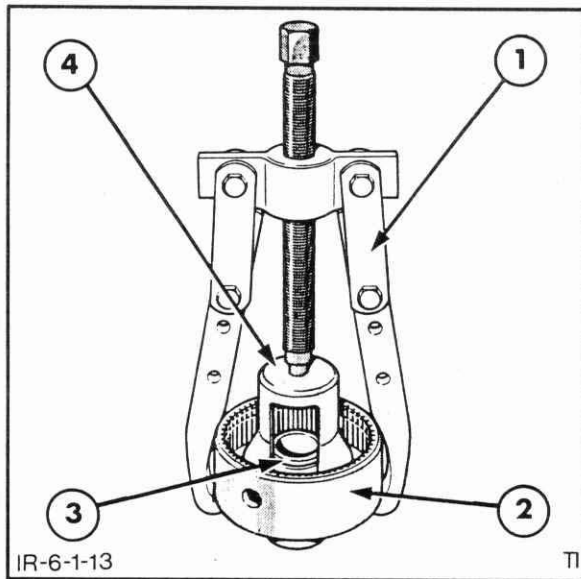

Figure 6-14
3. Using Puller, Tool #1003 or 9516 or a press and Compressor, Tool #FT4101 or 1312, compress the clutch piston return spring and withdraw the snap ring, Figure 6-14.